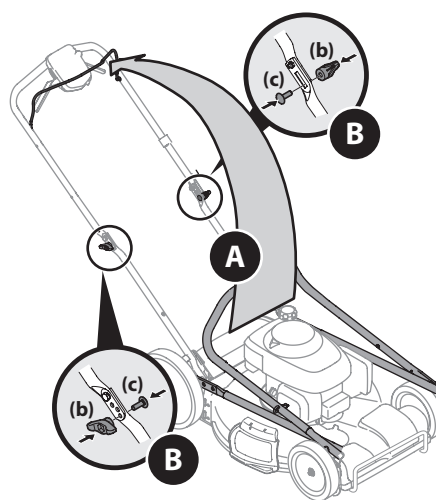

Figure 2-2
5. Reattach wing knobs (b) and carriage bolts (c) removed in Step 3 into lower holes of handle as shown in Figure 2-2.